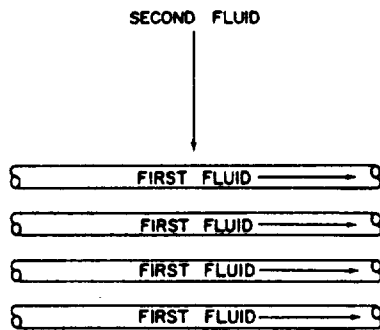

Figure 6-35.—Crossflow in heat exchanger.
**CROSSFLOW.**—In crossflow (fig. 6-35), one fluid flows at right angles to the other. Crossflow is particularly useful for removing latent heat, thus condensing a vapor to a liquid. Counterflow